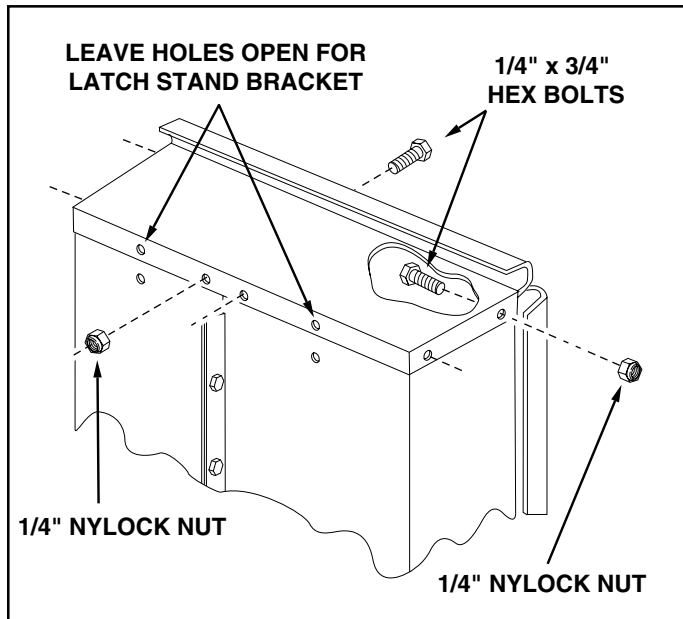

FIGURE 4
9. Assemble the front panel over the end of the cart using six 1/4" x 3/4" hex bolts and 1/4" nylock nuts as shown in figure 4. Leave two holes in the bottom of the panel empty as shown. With the cart body halves pulled together, **tighten** the bolts in the bottom of the front panel, then **tighten** the bolts in the sides. See figure 4.